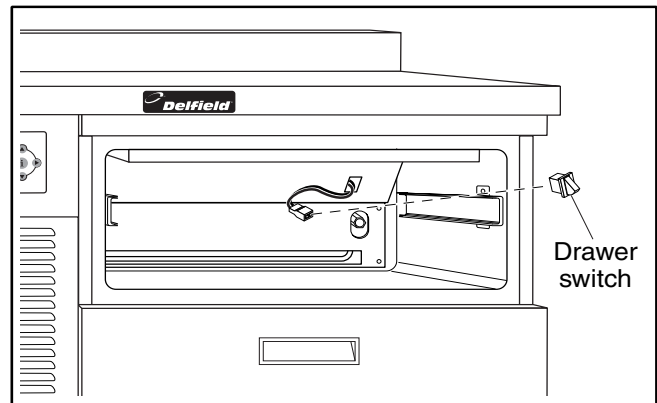

Figure 5. Drawer Switch
3. Reach inside the box and carefully remove the drawer switch out of the mounting slot (Figure 5).